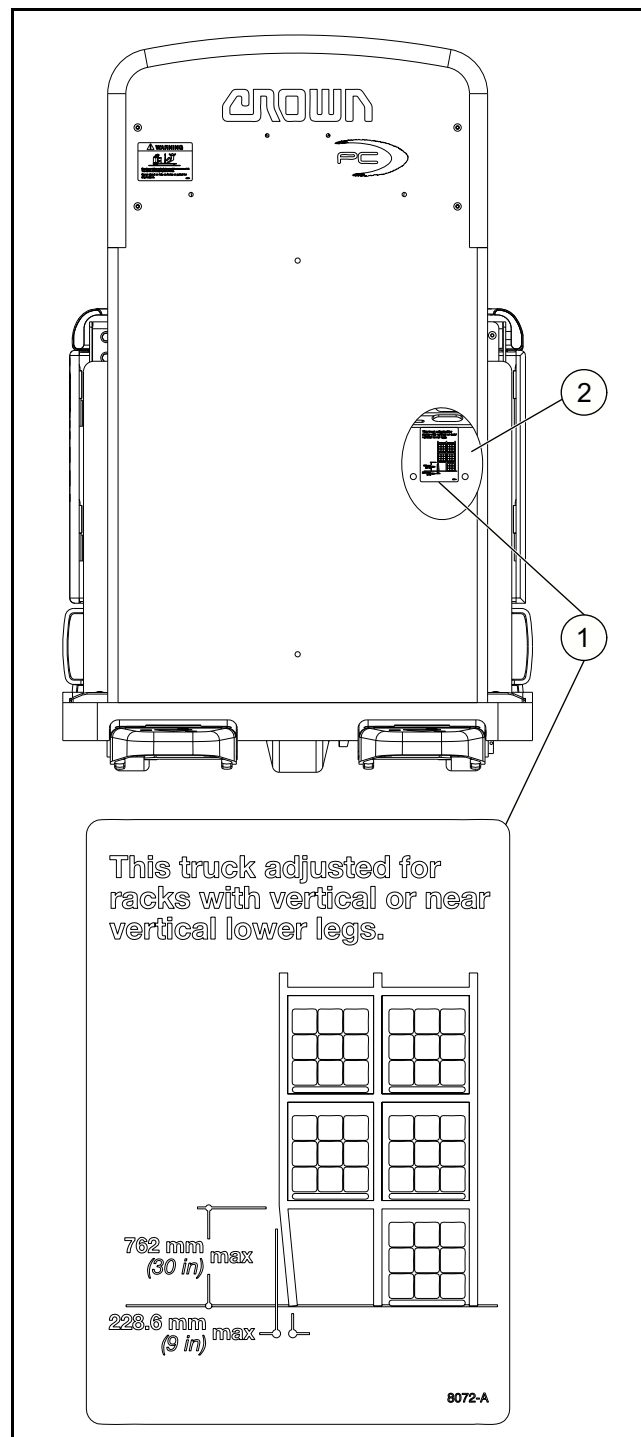

Fig. 1 (34774)
See Figure 1. The cantilever rack label (1) is on the power unit wall side facing the battery (2).